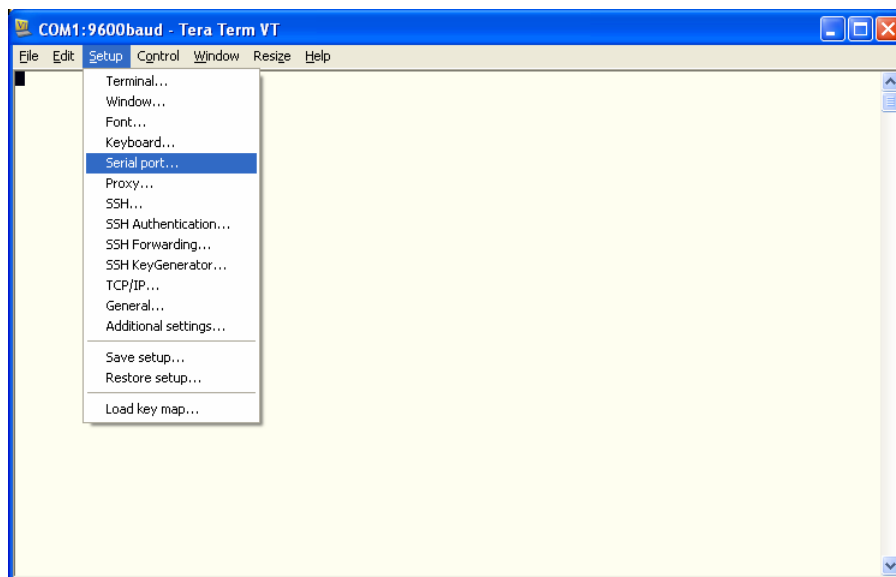

Figure 6-25: Selecting the Serial Port Setup
19. Select **Setup**, then click **Serial port** (Figure 6-25).